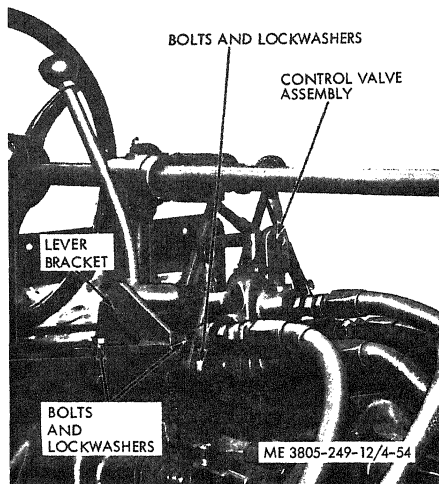

Figure 4-54. Blade sideshift control valve.
a. Removal. Refer to figure 4-54.
(1) Disconnect the hydraulic lines at the control valve. Cap or plug openings.